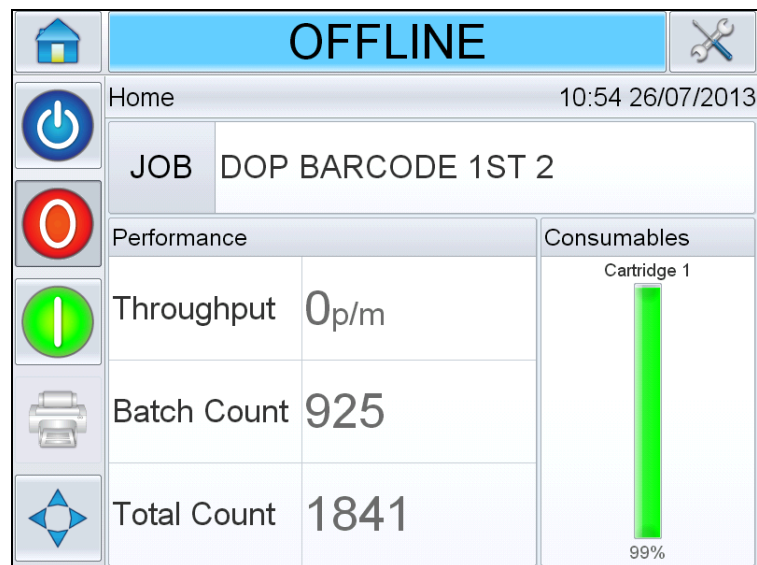

Figure 6-15: Select Job
- 1 Select *JOB* from the *Home* page (see Figure 6-15).